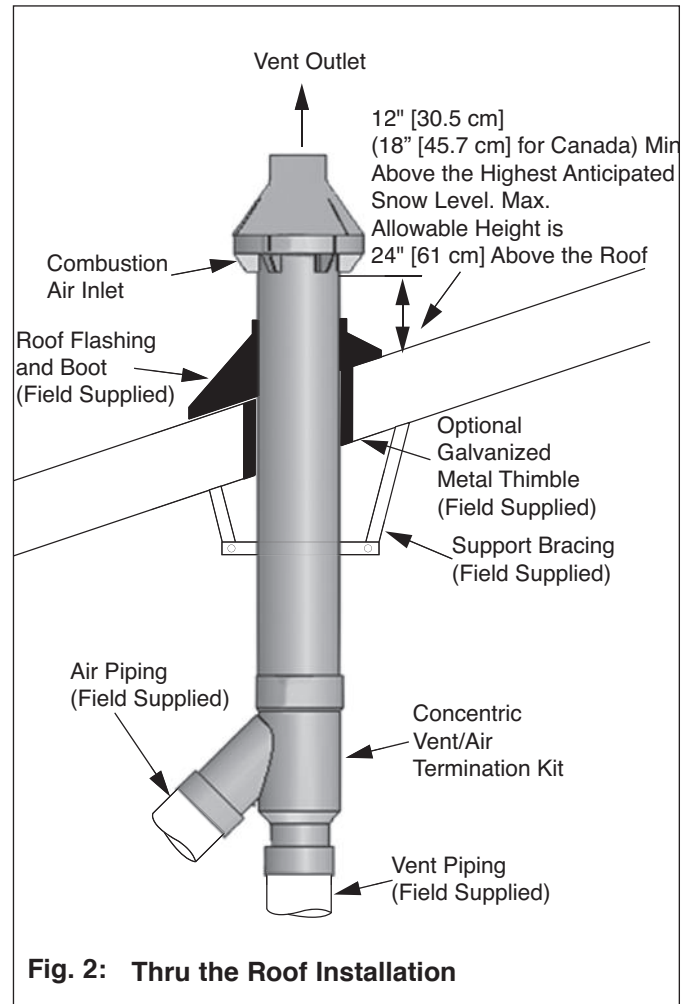

Fig. 2: Thru the Roof Installation
2. The concentric vent/air assembly must terminate vertically and must be located 12 inches [30.5 cm] (18 inches [45.7 cm] for Canada) minimum above the highest anticipated snow level with a maximum of 24 inches [61 cm] above the roof as shown in Fig. 2.
4. Mount the termination assembly as shown in Fig. 2 page 6.
2. Support the termination assembly at the roof penetration as shown in Fig. 2 page 6